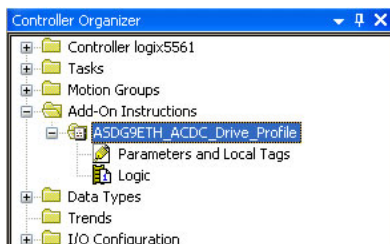

Figure 89: AC/DC Drive Profile AOI
- 2) Right click on “Add-On Instructions” in the controller organizer view and select “Import Add-On Instruction”. Browse and import the AC/DC drive profile AOI. Refer to Figure 89.